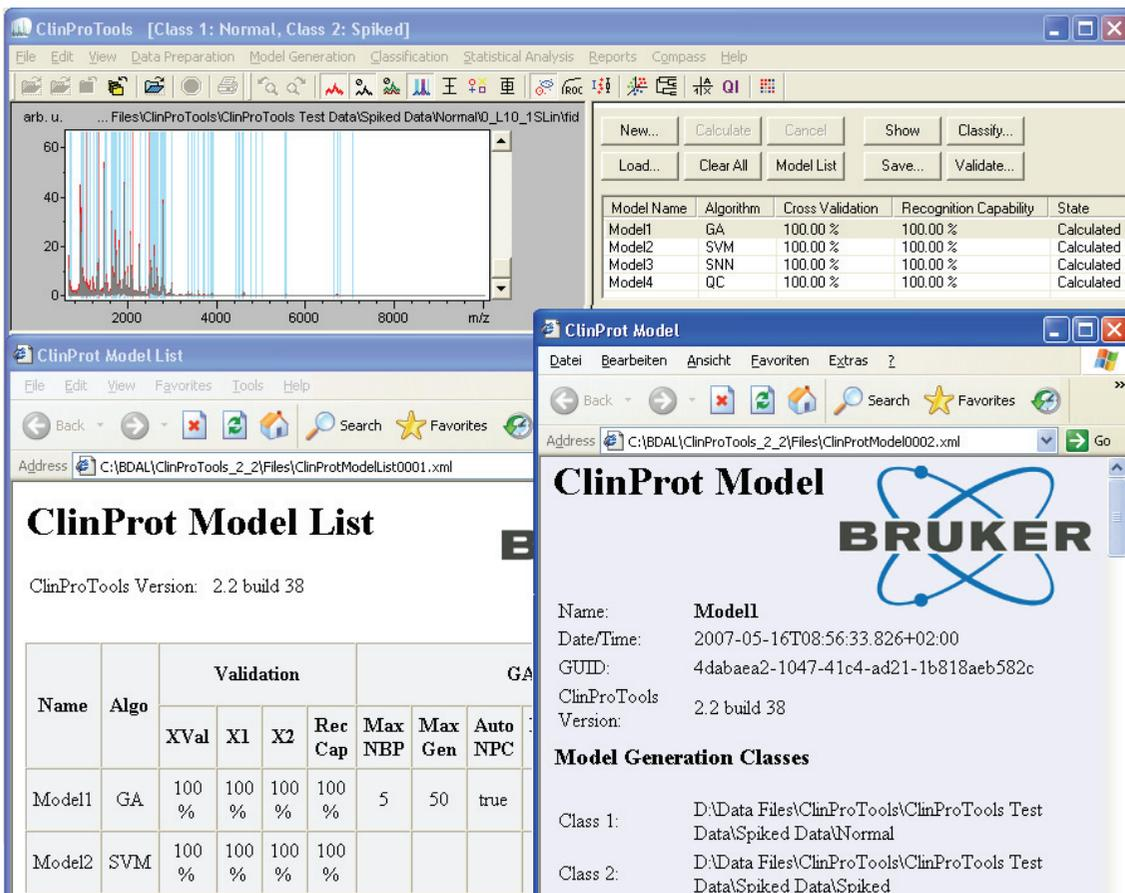

Figure 4-2 Results of running the basic workflow 'Model Generation'
4. To view the parameters of all models in the model list use the **Model List** command from the **Reports** menu or . This opens the Model List report (Section 8.1.1.5) (Figure 4-2).
This opens the Model report (Section 8.1.1.6), which lists all parameters of the selected model (Figure 4-2).
The Spectra View (Section 5.1.1) shows the peaks that are incorporated in the current model now having red integration regions instead of blue ones (Figure 4-2).